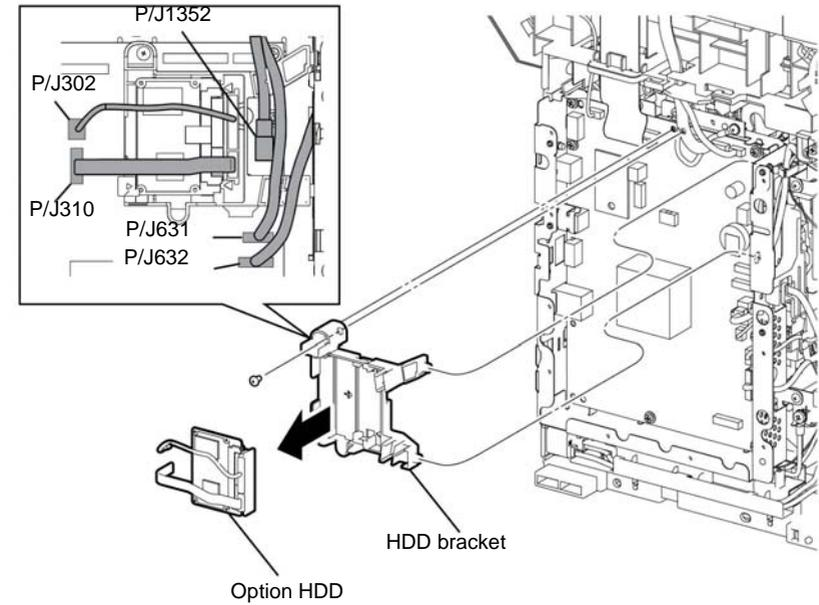

Figure 5 HDD and HDD bracket removal
14. Disconnect, P/J1352, P/J631 and P/J632, then remove the harnesses from the HDD bracket, Figure 5.
15. Disconnect P/J302 and P/J310, then remove the option HDD, Figure 5.
16. Remove one screw (silver, M3, 6mm), then release the two bosses to remove the HDD bracket, Figure 5.